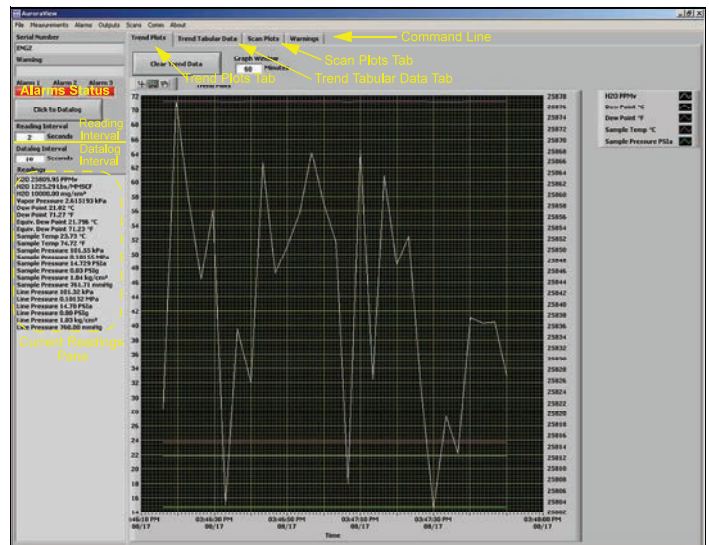

Figure 29: AuroraView main screen
2. AuroraView boots up and displays a screen similar to *Figure 29* below.